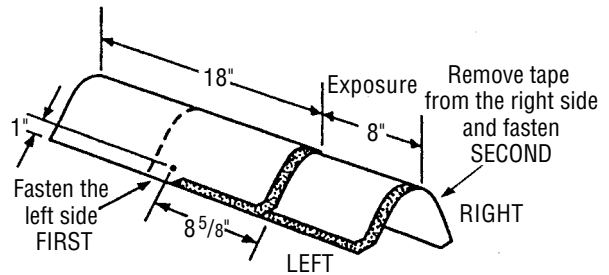

Figure 15-15: Installation of Shingle Ridge shingles on hips and ridges.
- Fasten each cap with two fasteners (Figure 15-15). The fasteners must be 1-3/4" long, or longer, so they penetrate either 3/4" into the deck or completely through the deck, exposing at least 1/8" of the tip of the nail. Expose 8" of the Accessory along the ridge or hip line and cover all fasteners.